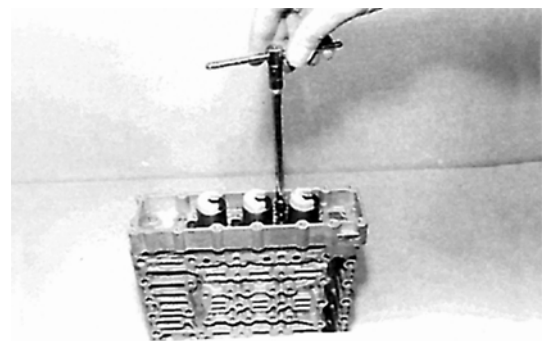

Figure 75
- I. Pay attention to radial installation position of pressure regulators, see Figure 75.